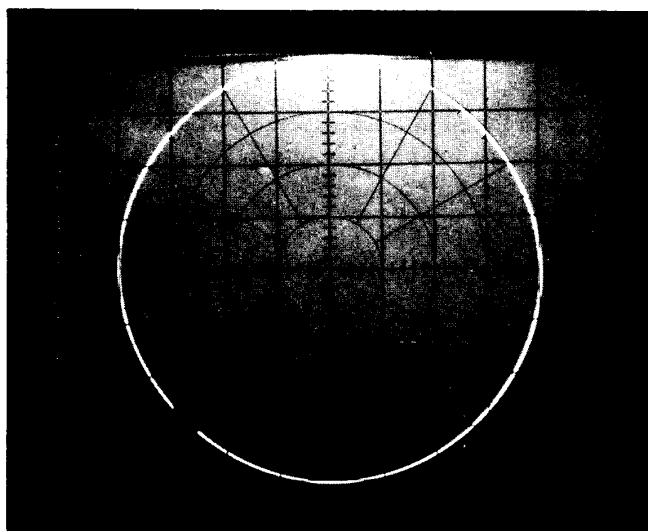

Figure 5-43. Gap at -135 Degrees
- g. Select SWEEP AUTO, FAST. Connect rear-panel SWEEP OUTPUT to A10TP5 SWP IN. A circle should now be displayed, with a gap. Adjust CHANNEL 2 REFERENCE lever switch until the gap is in the lower-left quadrant of the display, as shown in Figure 5-43.